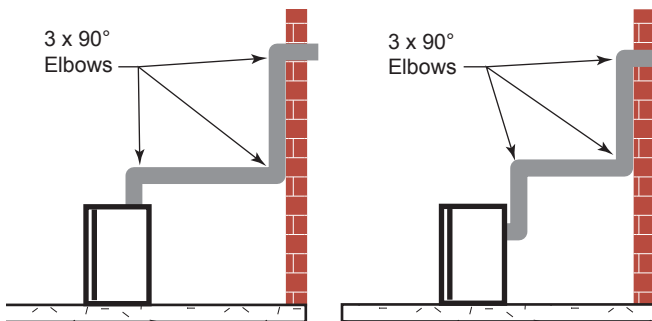

Figure 21 -
- The maximum number of 90° elbows per side wall installation is three (3). *Figure 21*
- If a 90° elbow is used in the horizontal vent run (level height maintained) the horizontal vent length is reduced by 36". *Figures 21 and 22*. This does not apply if the 90° elbows are used to increase or redirect a vertical rise. *Figure 24*